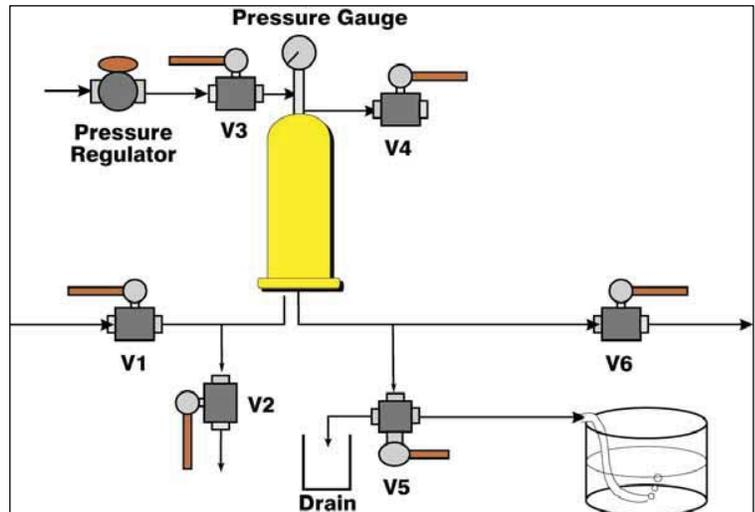

Figure 3 - Bubble Point Test (Manual Testing)
### Procedure #1. Bubble Point Test (Manual Method - Figure 3)
- A. Configure the system as shown in Figure 3. Connect a pressure regulator to a sterile compressed air source (Do Not Use CO2) capable of delivering a minimum of 1.4 bar (20 psig) more than the required test pressure. Minimum Bubble Point test pressure for LifeASSURE PDA series filter is 3.1 bar (45 psig). Fill a reservoir to a depth of approximately 5 cm (2 inches) with sterile water. Connect a length of clear flexible tubing (3-6 mm I.D.) to the outlet port of drain valve V5 and place other end into reservoir.